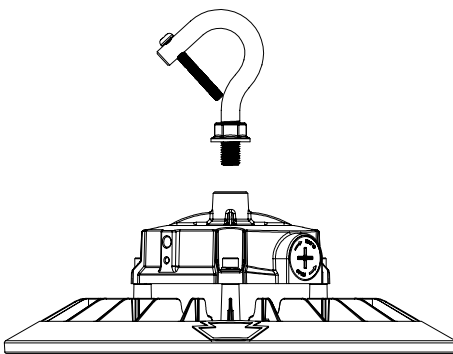

Figure 1
1. Screw the hook into the fixture. Tighten and fix it. (Figure 1)